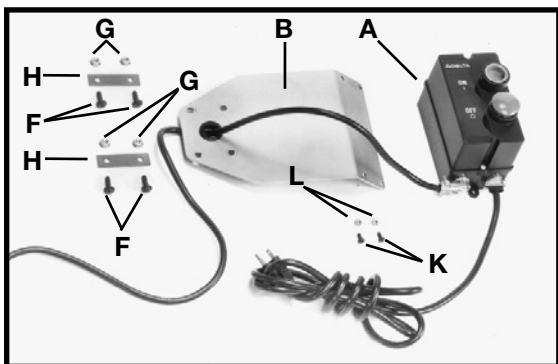
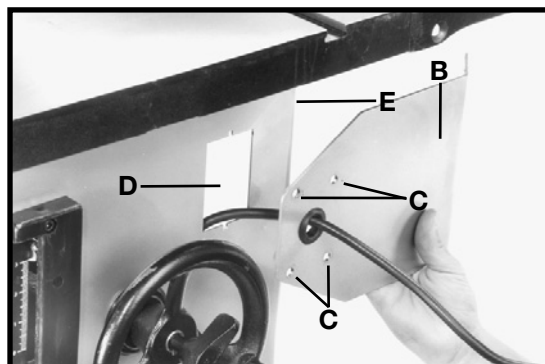
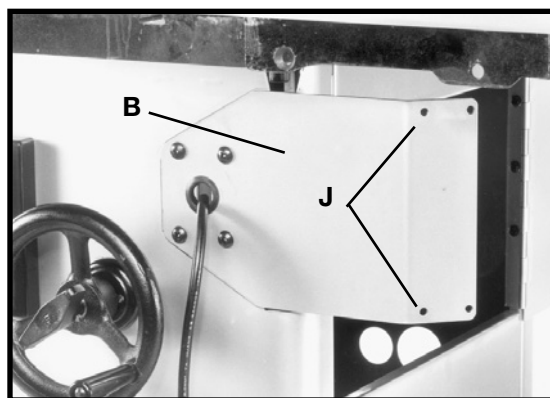

Fig. 5
Fig. 6
Fig. 8
1. The on/off switch (A) Fig. 5 and switch mounting bracket (B) are shipped inside the shaper cabinet. Open the side door of the shaper cabinet, remove the switch package, and remove all packaging material.
2. Position the switch mounting bracket (B) Fig. 6 with the holes (C) over hole (D) in the shaper cabinet (E). Fasten the bracket (B) to the cabinet (E) using the four 1/4-20 x 7/8" truss head screws (F) Fig. 5, 1/4-20 flange nuts (G) and the two switch adapter plates (H).
3. Attach the on/off switch (A) Fig. 5 to the switch mounting bracket (B) Fig. 8, through the two holes (J). Use two #10-32 x 1/2" Phillips head screws (K) Fig. 5 and secure with #10-32 Keps nuts (L).